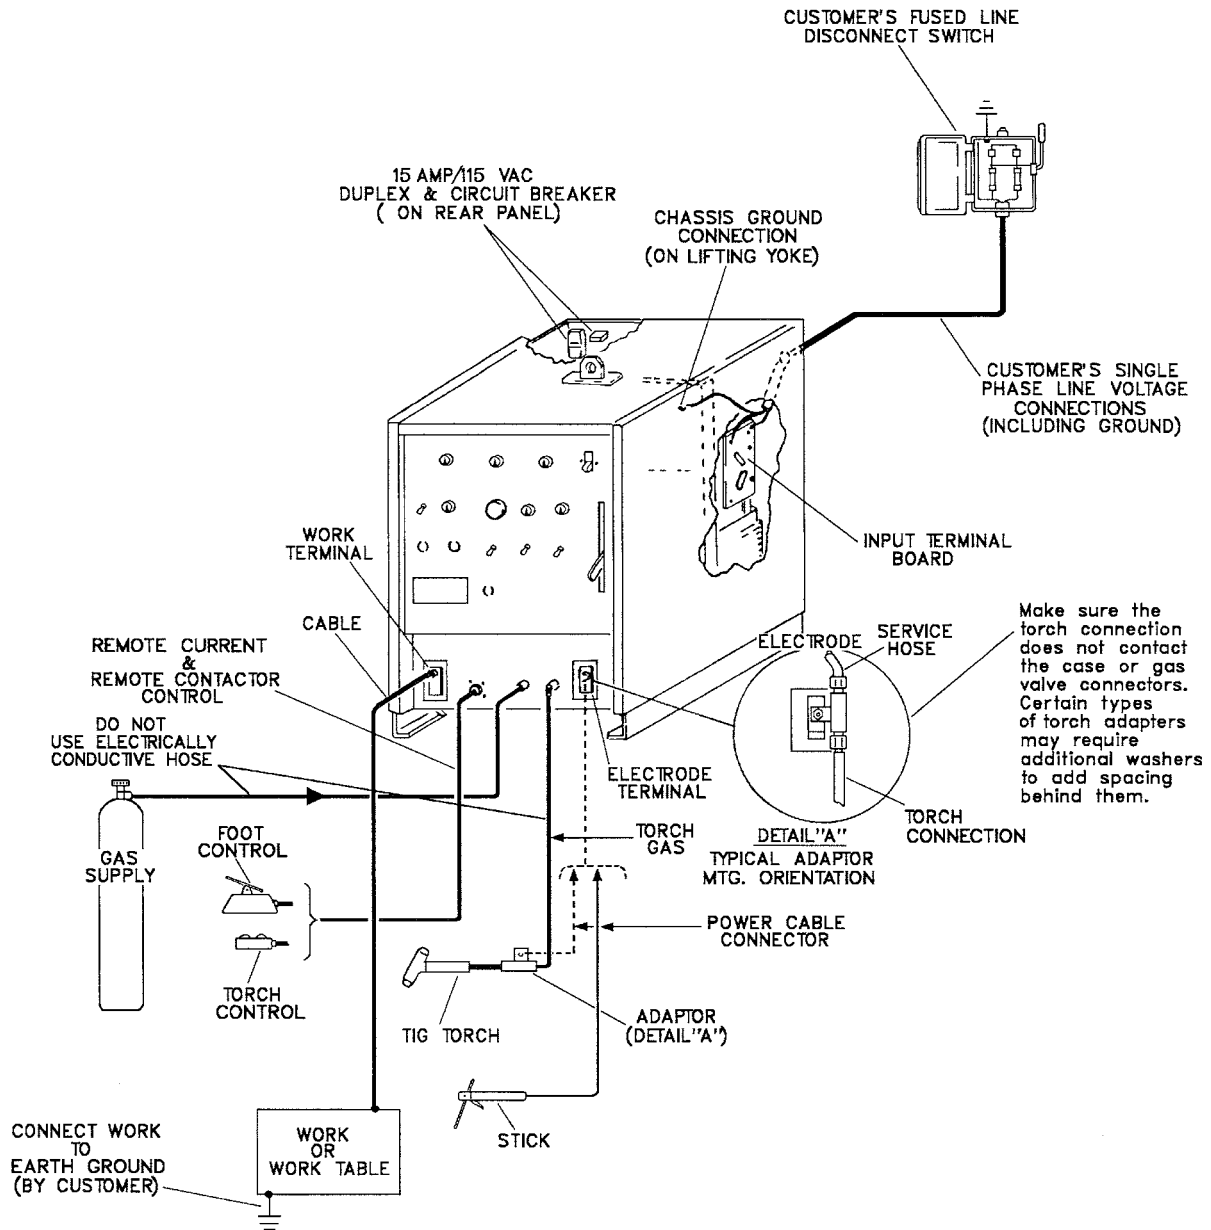

Figure 4-4 Connections and Precautions
1. A line (wall) disconnect switch, with fuses or circuit breakers should be provided at the main power panel (see Figure 4-4). The primary power input must have three insulated copper conductors (two power leads and one ground wire). The wires may be heavy rubber-covered cable or may be run
3. Thread the input conductor cables from the wall disconnect switch through the (knock out) hole in the rear panel (see Figure 4-4). Connect the conductors to terminals L1 and L2 (on the input terminal board) using UL listed pressure wire connectors. Connect the ground wire to the grounding stud provided on the lifting yoke near the input terminal board.
Refer to Interconnection Diagram, Figure 4-4, for typical primary input, secondary output, process gas, and torch connections that are required for this unit's welding applications.
2. Attach the desired remote control device to the Remote Control Receptacle on front panel. See Figure 4-4.
2. Attach the desired remote control device to the Remote Control Connector (see Figure 4-4). Be sure Remote Amperage and Remote Contactor switches are in LOCAL position when no remote control is used.